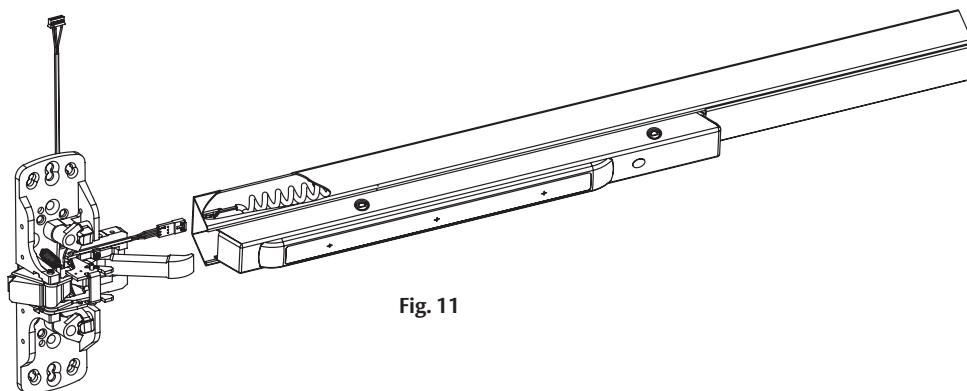

Fig. 11
8. Install rail assembly. (Figure 11)